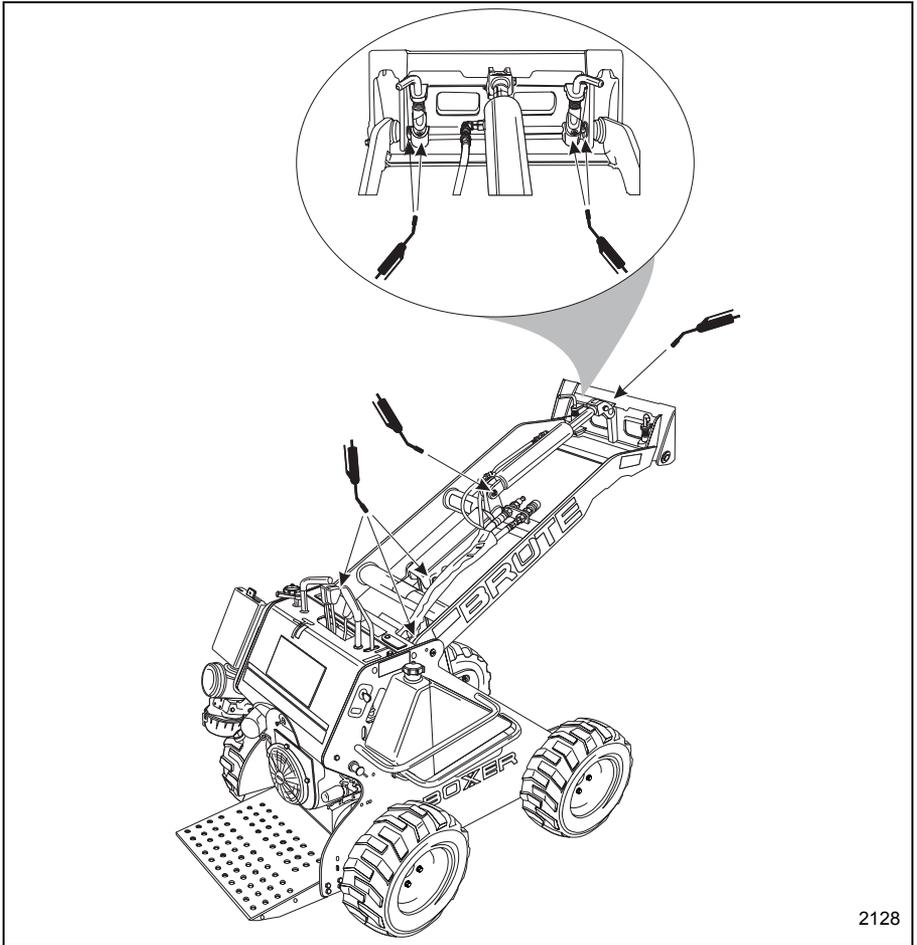

Figure 4-9 Lubrication Points
7. Grease pivot shafts with proper type of grease. There are 10 grease points on this machine, see Figure 4-9 and Figure 4-10.